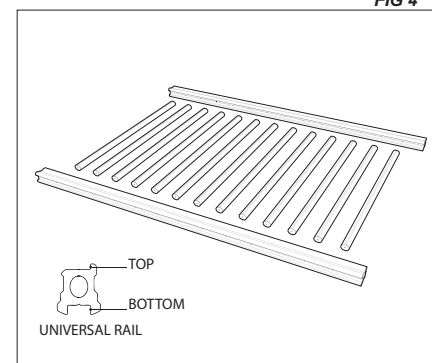

FIG 4
8. Position all railing components out on a flat work surface, aligning the pre-drilled holes on the universal rails to the pre-cut, pre-drilled balusters. **NOTE: Maximum baluster spacing must not exceed 5" on center, so that the space between balusters will not exceed 4". (Figure 4)**
7. Determine the number of balusters needed for your stair rail section. **NOTE: The balusters should be positioned so that the space between them will not exceed 4".** Measure and mark the baluster screw holes on the bottom universal rail so that the spacing is symmetrical on the rail. **(Figure 4)**